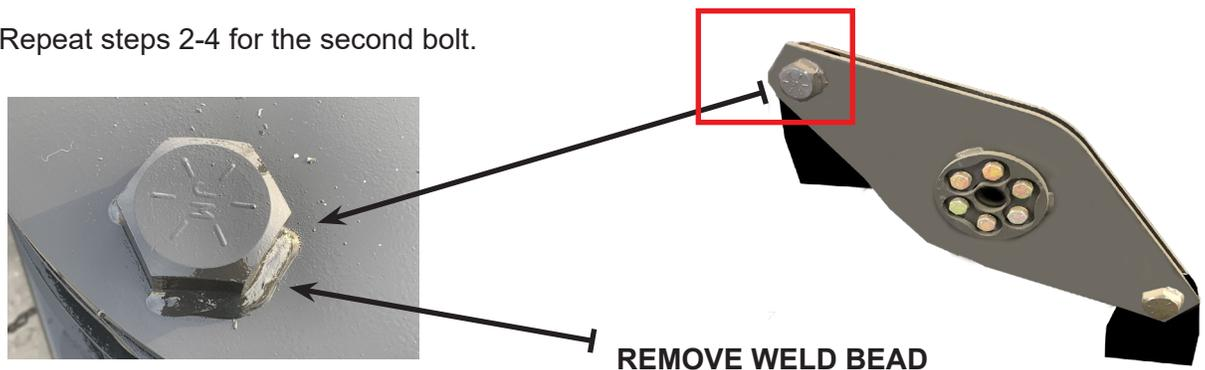

Figure A1 Blade Holder Bolt Weld Bead Removal
2. Use a cutting torch or grinder with a cut off wheel to remove the weld bead around the bolt head. DO NOT cut into the blade holder. (See Figure A1 below)
5. Weld the outside of the bolt head as shown in Figure A1 on page 51.